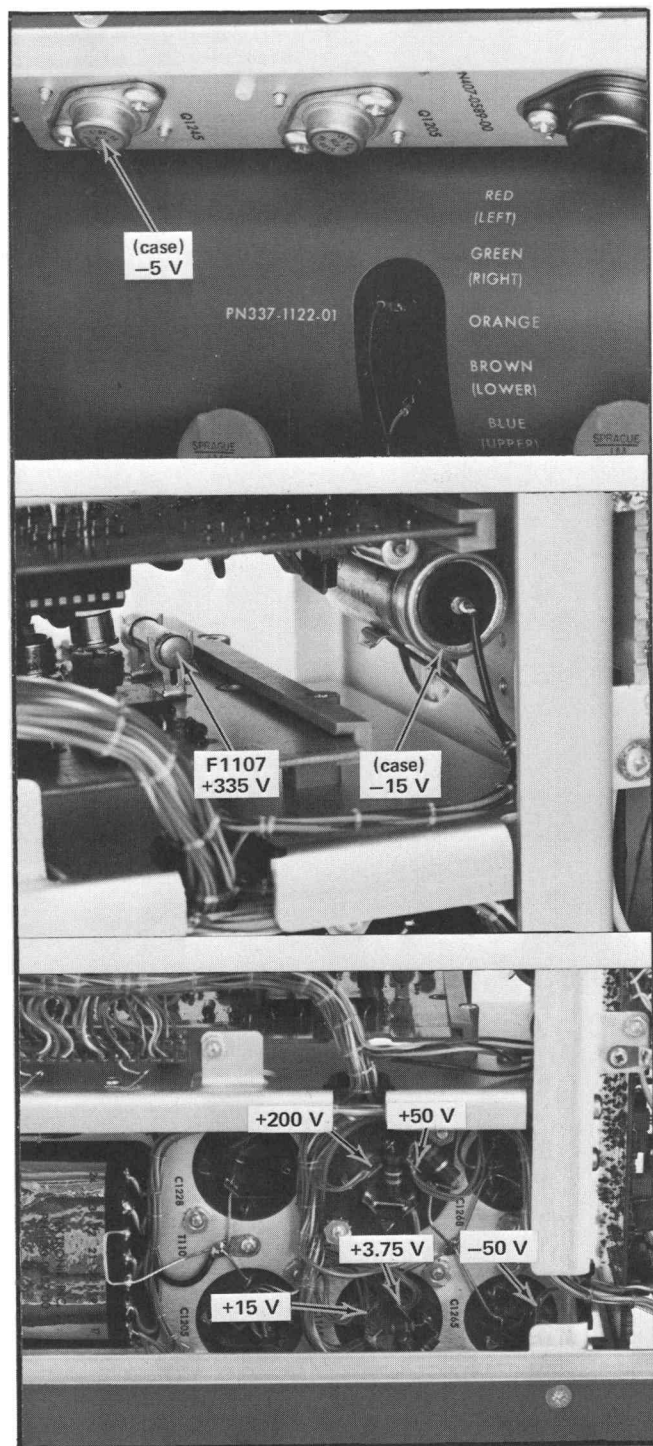

Fig. 5-2. Location of Low Voltage test points.
b. Connect the DC voltmeter between the +15 volt test point and ground (see Fig. 5-2).
a. Connect the DC voltmeter between each low voltage test point and chassis ground. See Fig. 5-2 for test point locations.